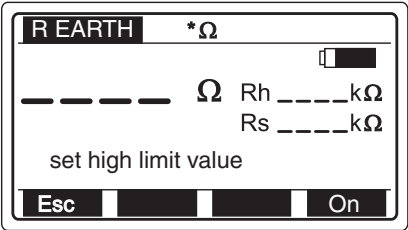

Figure 27: Menu for Limit Value Setting
- ▶ For limit value setting first press function key F2 (Lim) to enter the limit value setting menu, please refer to Figure 27.